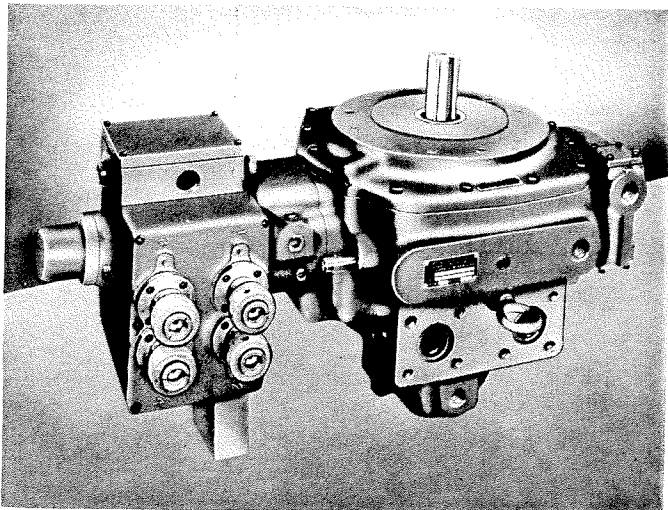

Figure 3. Pump on Table for Disassembly. (54585).
I. Handling Pump. Screw a 1/2" eye bolt in hole on top of case to lift unit with shaft in a horizontal plane. Screw two 1/2" eye bolts in front bearing housing to lift unit with shaft pointing upward. Insert a small block under control to support and level pump on work table (figure 3). Some units have been modified from those described in this bulletin.